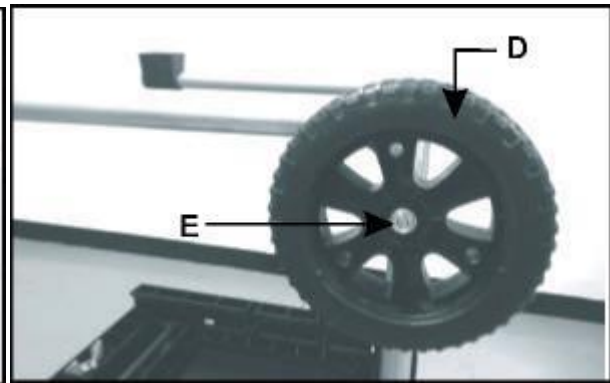

Fig. 1C
2. Mount the wheels (D) and tighten the nut (E) by hand. (Fig. 1C)